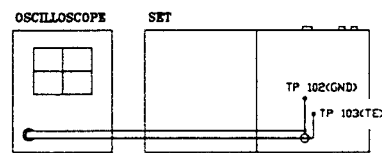

Fig. 6
2. Connect oscilloscope to the set as shown Fig. 6 Page 9.